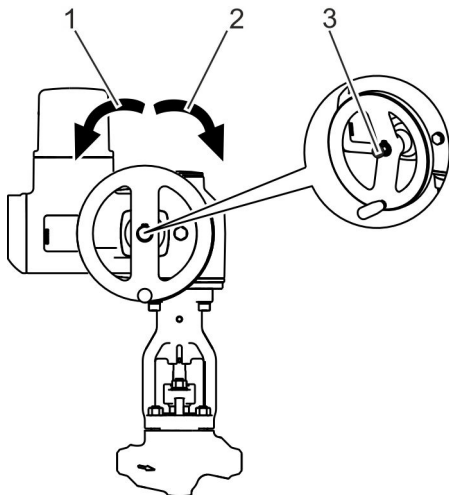

Fig. 20: Electric actuator: Activating the handwheel in an emergency (shown: HD 2000)
2. ➤ Couple the handwheel (Fig. 20/3).
- Turn clockwise (Fig. 20/2): Close valve.
- Turn counterclockwise (Fig. 20/3): Open valve.